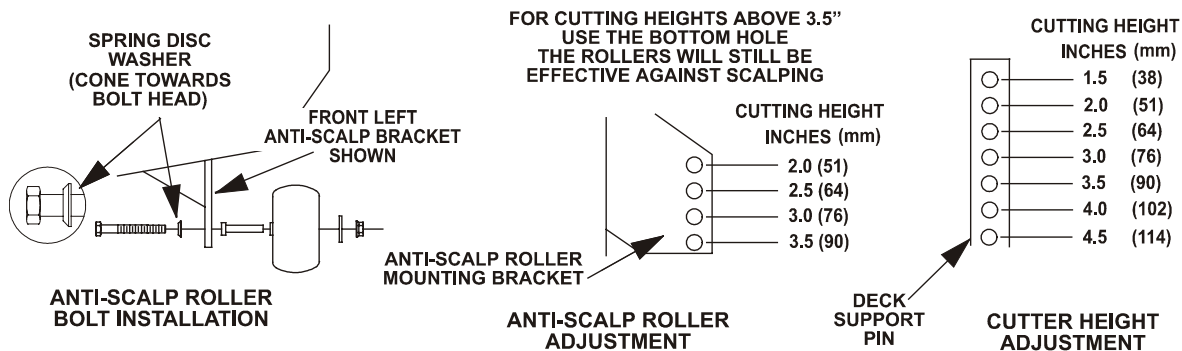

FIGURE 8
- b) Adjust anti-scalp rollers for Normal Operating Conditions. Place rollers in one of the positions shown in Figure 8. Rollers will maintain 3/4 in. (19 mm) clearance to the ground to minimize gouging and roller wear or damage. **For Maximum Deck Flotation**, place rollers one hole position lower. Rollers should maintain 1/4 in. (6.4 mm) clearance to ground. **Do Not** adjust rollers to support the deck. Be sure roller bolts and nuts are installed with the spring disc washer between head of the bolt and mounting bracket. **Torque to 40-45 ft-lbs, or loss of roller may result.**
- c) When operating in extremely rough conditions it may be necessary to position the anti-scalp rollers one or two holes higher than described in "b" to prevent damage to the rollers and/or bolt failure (See Figure 8).